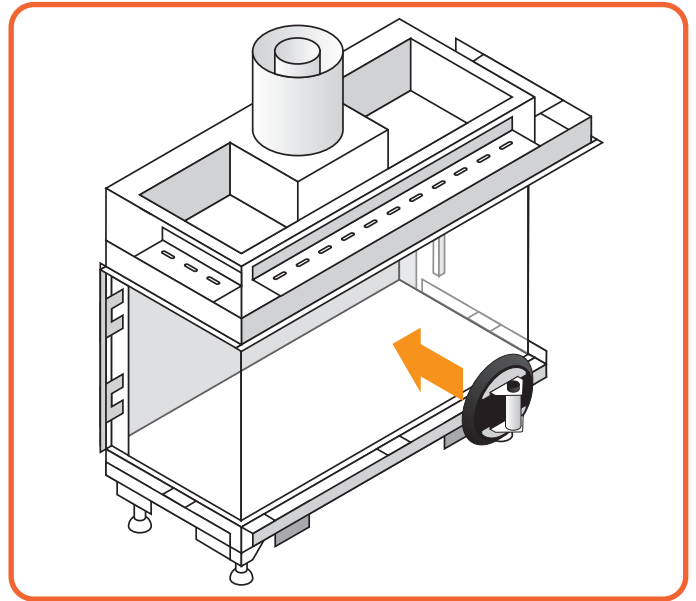

Figure 10.5 - Using the suction cup
- Put the section cup on the glass and make sure it is properly vacuumed, so it will not come off. (See **Figure 10.5**)